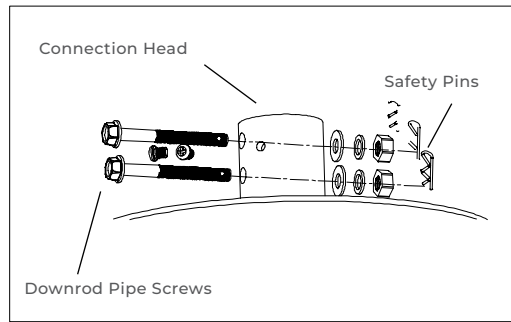

FIGURE 2
A) First remove the safety pins on the connection head, and then remove the two fixed downrod pipe screws located in the connection head on top of the motor body. (See Figure 2);